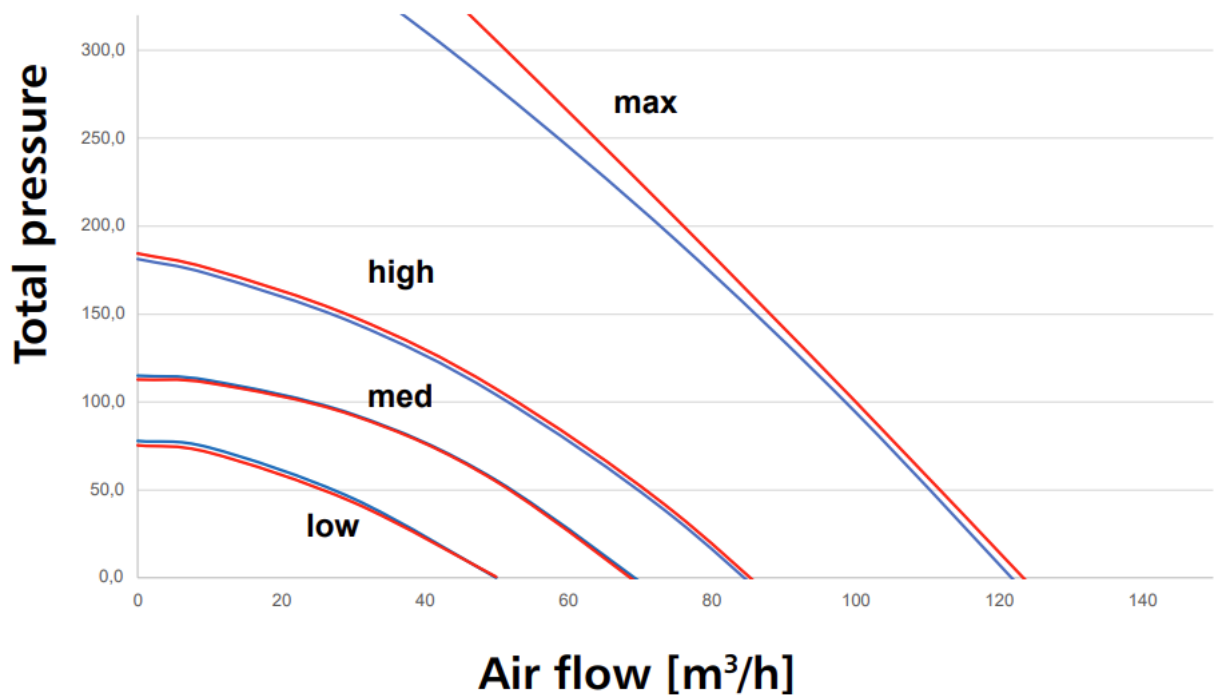

Figure 4 Total pressure for HRU-FlatAIR-100
- HRU-FlatAIR-100-H 100 m³/h (at 100 Pa) [Fig. 4]